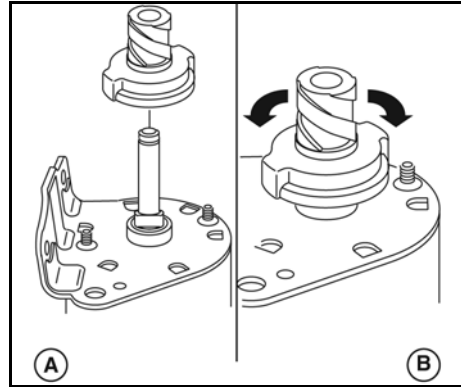

Figure 26
2. Install pinion gear (C, Figure 26) with beveled edge of teeth up. Install return spring (D) into recess of pinion gear.